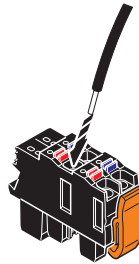
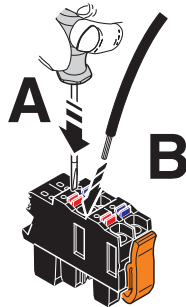

Figure 5-3 Connecting a rigid conductor
Figure 5-4 Connecting a flexible conductor
- Open the spring by pressing on the spring lever with a screwdriver (A in Figure 5-4).
- Insert the conductor into the terminal point (B in Figure 5-4).
1. Connect the power supplies to the supply connector as shown in Figure 5-3 and in Figure 5-4. Note the information in Section 3.16.